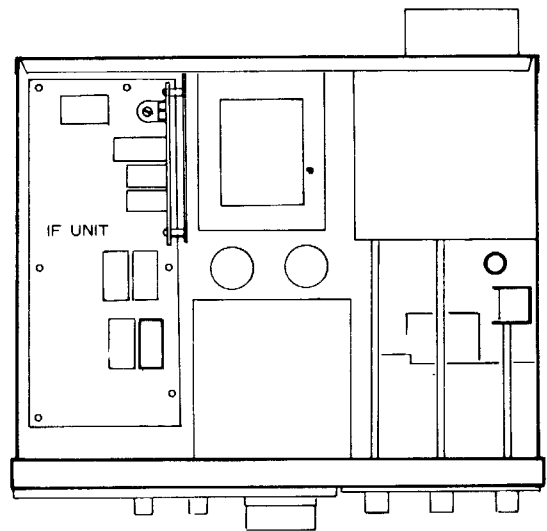

Figure 2
2. Remove the six screws attaching the IF Unit (located at the left side of the chassis when viewed from the front, Figure 2).